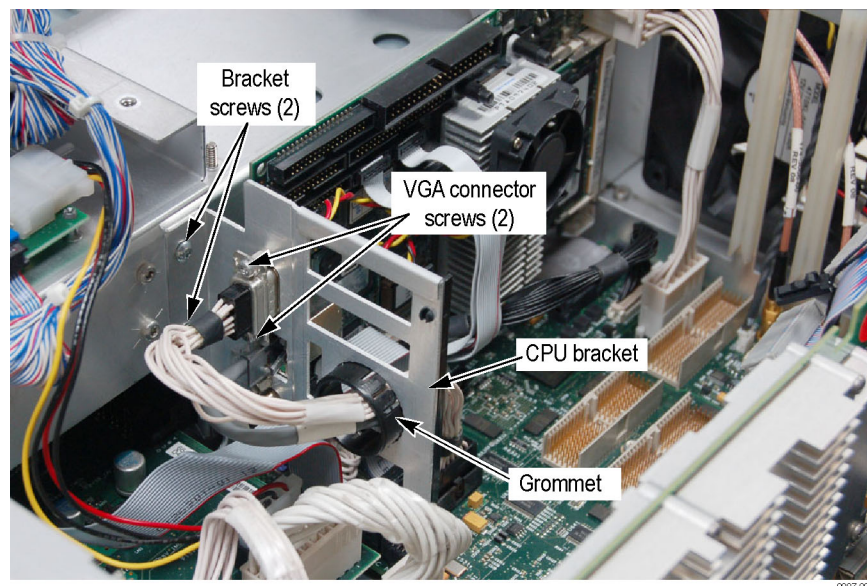

Figure 11: CPU bracket installed on the chassis
3. Using a T-15 wrench and the two existing bracket screws, install the CPU bracket on the chassis (torque to 8.0 in-lb). (See Figure 11.)